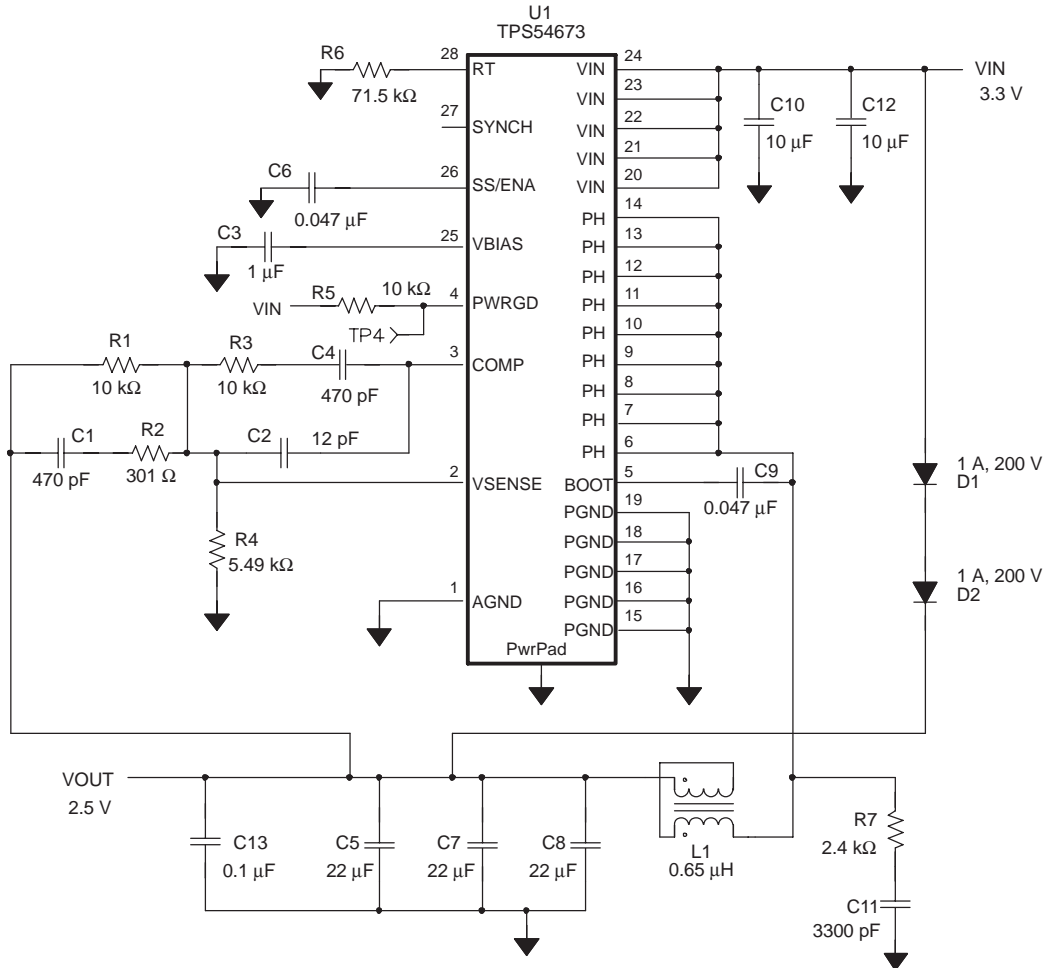
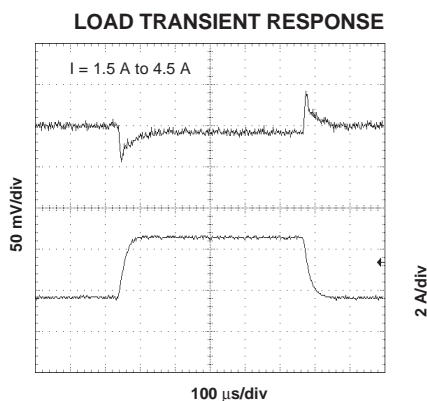

Figure 10. Application Circuit
Figure 19
⁽³⁾ Specified by the circuit used in Figure 10
(1) Specified by design
(2) Static resistive loads only
(3) Specified by the circuit used in Figure 10
(4) Matched MOSFETs low-side r_{DS(on)} production tested, high-side r_{DS(on)} specified by design
Figure 10 shows the schematic diagram for a typical TPS54673 application. The TPS54673 (U1) can provide up to 6 A of output current at a nominal output voltage of 0.9 V to 3.3 V, and for this application, the output voltage
Data shown is for the circuit in Figure 10 with precharge disabled (D1 and D2 removed) except for slow-start timing of Figure 19. All data is for $V_I = 3.3\text{ V}$, $V_O = 2.5\text{ V}$, $f_s = 700\text{ kHz}$ and $T_A = 25^\circ\text{C}$, unless otherwise specified.